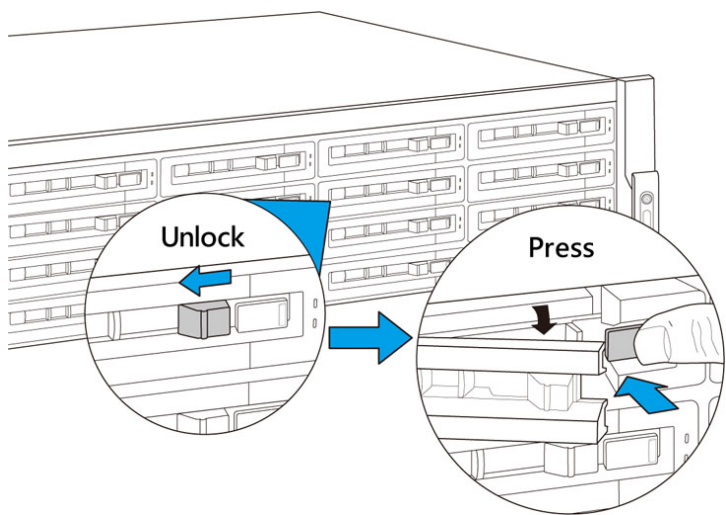

Figure 3-2: Release HDD Tray (Front Panel)
Step 1: Unlock the latch and press the button to release the HDD tray as shown in **Figure 3-2**.